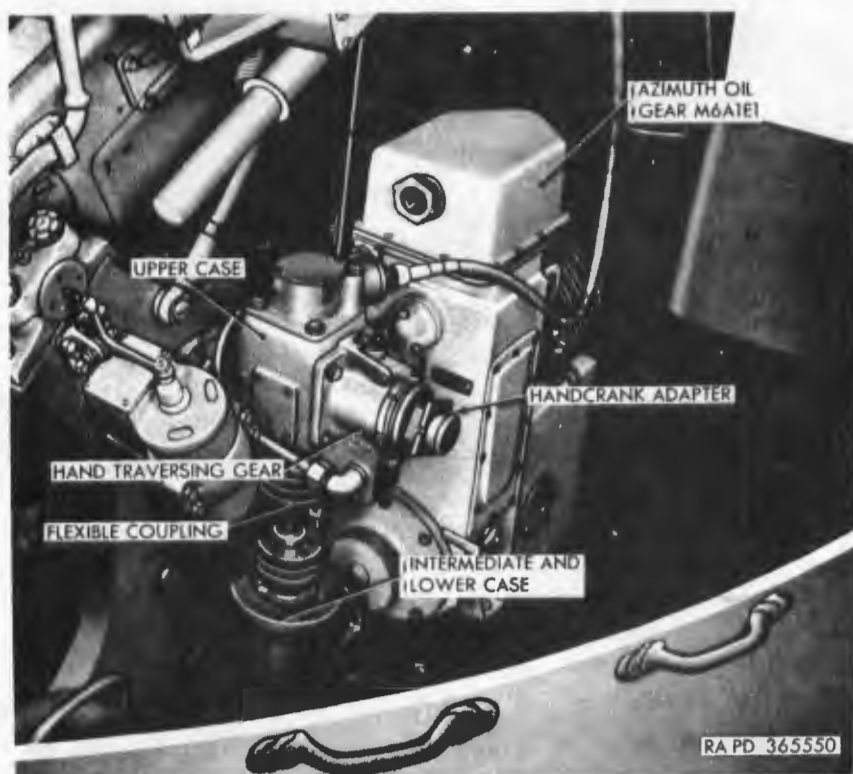

Figure 358. Traversing mechanism.
a. Description. The traversing mechanism (fig. 358) consists of upper, intermediate and lower case assemblies which permit the mount to be traversed either by hand or power. Power for traversing is furnished by the azimuth oil gear M6A1E1 which is coupled through the intermediate case gears to the traversing mechanism pinion. The traversing mechanism pinion meshes with the traversing ring gear mounted in the bearing assembly for the carriage. The gun mount is rotated in azimuth by the traversing mechanism pinion being rolled around the circumference of the stationary ring gear.
- (1) The hand traversing gears (fig. 358) are mounted on the outside of the carriage right frame. They are operated manually by a double hand operating crank. Rotation of this crank is transmitted through the upper case gears, through the flexible coupling assembly, and through the
- (2) The hand traversing gears (fig. 358) are contained in the handcrank housing which also contains a microswitch, actuating assembly, and housing lever identical to those in the handcrank housing of the elevating mechanism (fig. 354).
- (3) The gun mount may be locked with the gun barrels straight ahead at 0 or directly to the rear at 3,200 mils azimuth by the traversing lock (par. 54d).